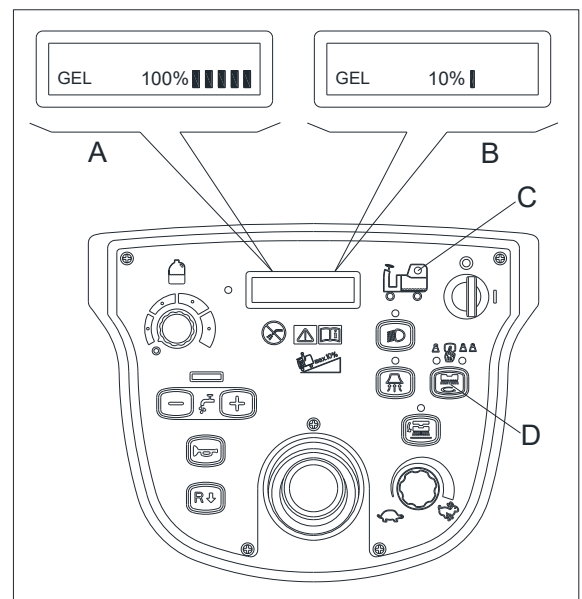
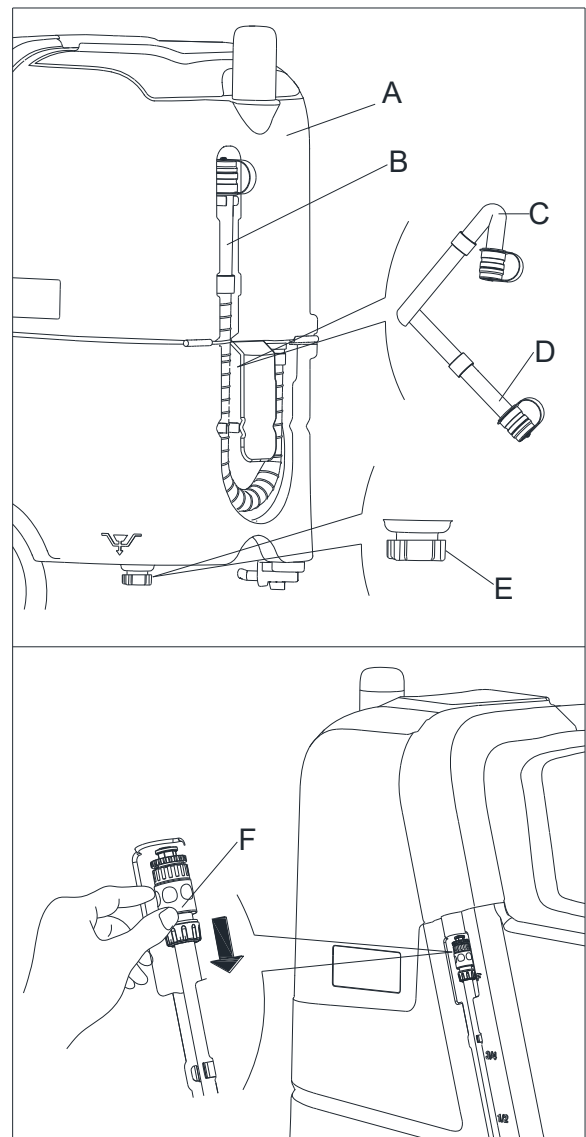

Figure 15
Figure 16
When the batteries are full of power, five rectangular together with “100%” at the right bottom of LCD screen are shown. (A, Figure 15). When only one rectangular together with “10%” is shown (B, Figure 15) indicates the battery power is low, the brush motor and vacuum motor stop work. Please re-charge the batteries.
When the red LCD (C, Figure 15) turns on indicates the recovery tank (A, Figure 16) is full, the vacuum motor stops work to dry the floor, please empty the recovery tank as flowing steps:
3. Drain the recovery tank using the drain hose (B, Figure 16), then clean the recovery tank.
When draining the wastewater, the drain hose must be folded (C, Figure 16) and put to a low position (D, Figure 16) before opening the drain hose cover. Do not make the outlet of the drain hose upward to drain the water vertically in order to avoid wastewater spilling onto the operator.
2. Empty the solution tank through the outlet cover (E, Figure 16). And then, rinse the tank with clean water. The water can also be drained by unplugging the drain connection (F, Figure 16).